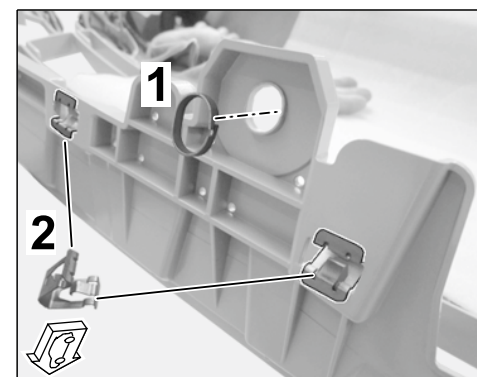

Figure 7
- 2.6.2 Fit spacer ring (2 x) using pliers in tab on (center) radiator grille at the top (⇒ *Figure 7*).
- 2.6.3 Fit clamp 9.0 x 13.4/4.0 (6 x) in the edge of the (center) radiator grille at the top (⇒ *Figure 7*).